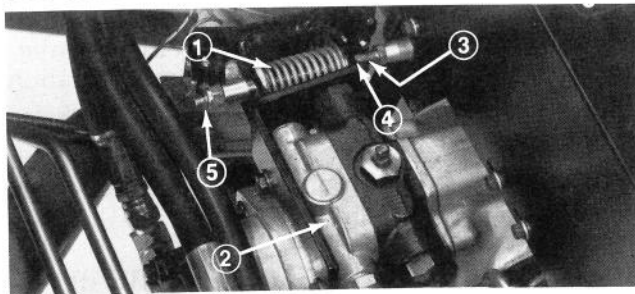

Figure 85
## REMOVING AND REPLACING TRACTION AND CUTTING UNIT PUMP ASSEMBLY (Fig. 85)
4. Disassemble and remove traction lever and equalizer assembly from traction pump (Fig. 85).
4. If wheel is rotating, stop engine, lift engine cowl, remove floor plate, lower cowl and restart engine. Loosen jam nut, and turn equalizer rod clockwise if wheel is rotating rearward, counterclockwise if rotating forward until rotation stops (Fig. 85). Retighten jam nut.